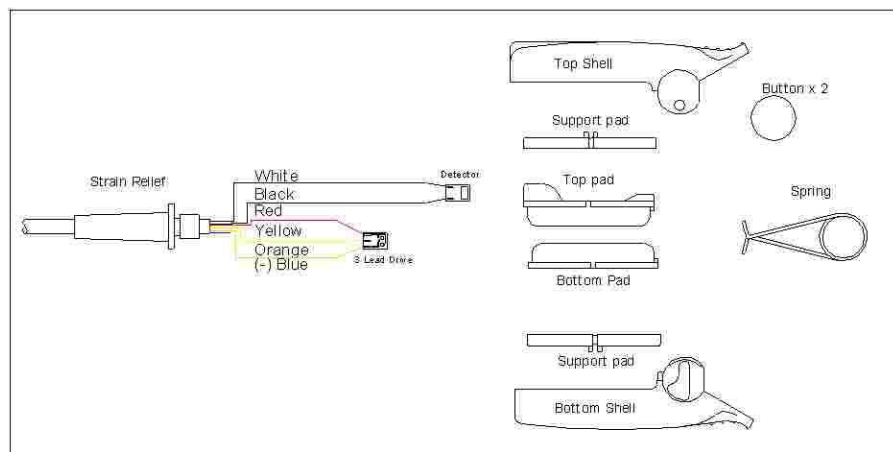

Fig 2.3
7. Solder wires to the detector, LED/I.R as shown in fig 2.3